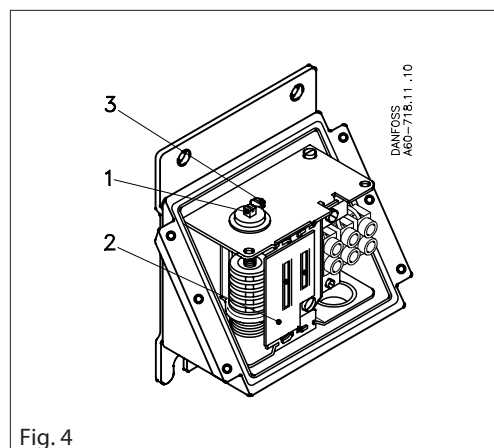

Fig. 4
When the pressure switch cover is removed, and the locking screw (3) is loosened, the range can be set with the spindle (1) while at the same time the scale (2) is being read (fig. 4).